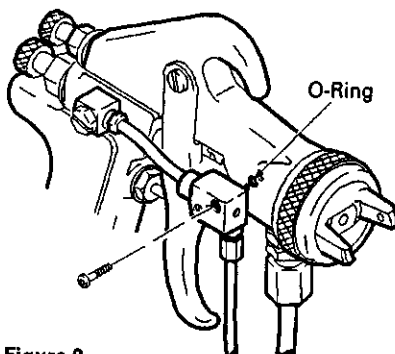

Figure 9
1. First verify flow of activator to valve by removing the activator tube from the bottom of the activator valve. If no flow, check the filter (optional) (46) and .020" (.5 mm) orifice fitting (36) for an obstruction.
2. Remove two set screws. Carefully pull valve away from gun body, being careful not to lose the small O-ring (Figure 9).